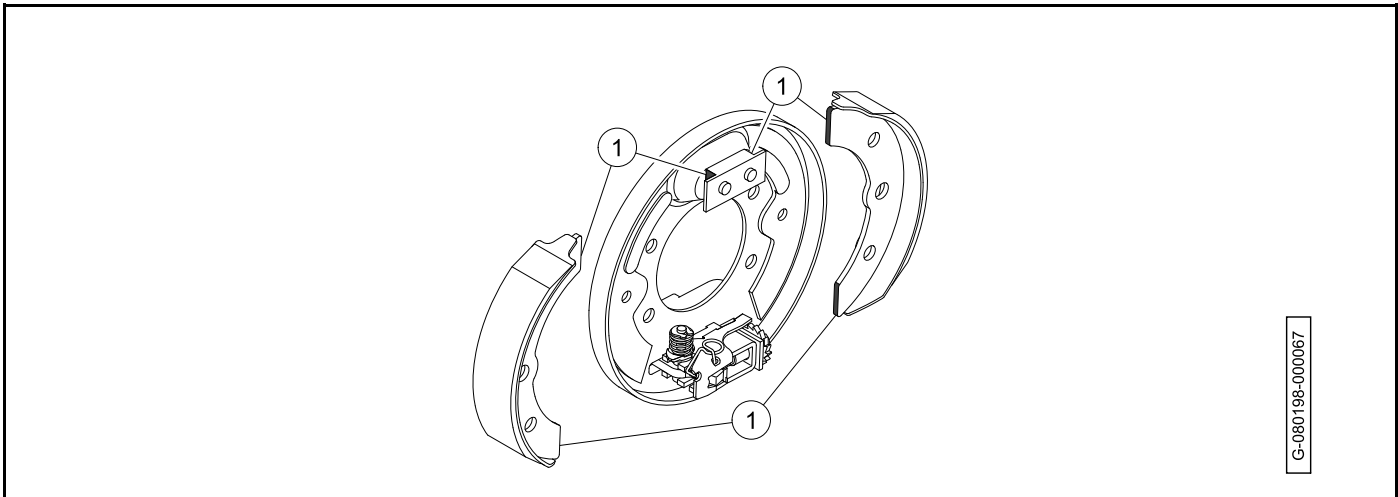

Figure 6-9
- Use a small brush to carefully apply a light coat of white lithium NLGI #2 grease (Dow Corning® BR2-Plus or equivalent) to each end of both brake shoes and into the slots in the brake shoe mounting block as shown (Figure 6-9).